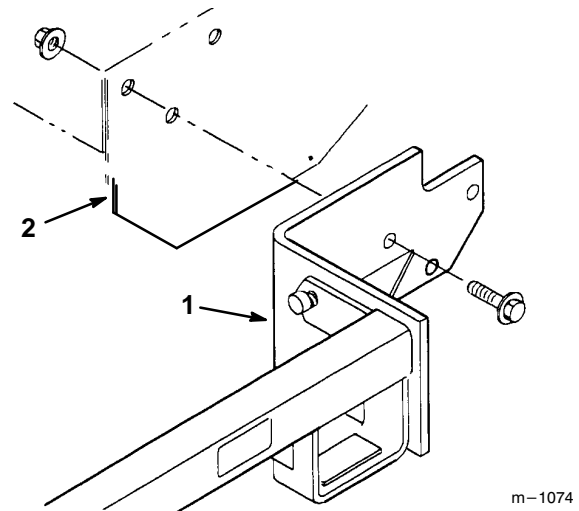

Figure 2
1. Align the carrier frame holes with the mounting holes in the traction unit frame (Fig. 2).
2. Fasten each side of the carrier frame to the traction unit with three (3) 1/2" x 1" (25 mm) flange screws and locknuts. Torque the mounting screws to 60–80 ft-lb (81–109 N•m) (Fig. 2).